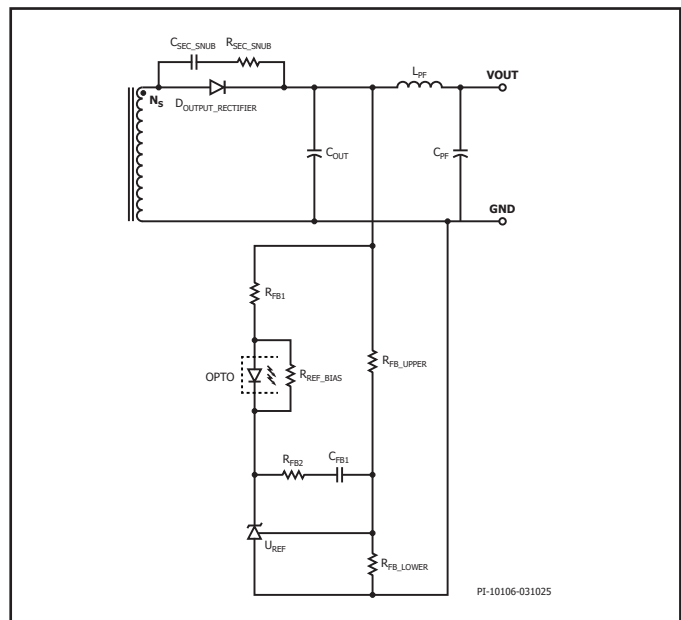

Figure 14. Secondary Output with Post Filter ( $L_{PF}$  and  $C_{PF}$ ).
3. If a post filter is used, ensure that the output voltage sense resistor and optocoupler are connected before the post filter inductor. See Figure 14.